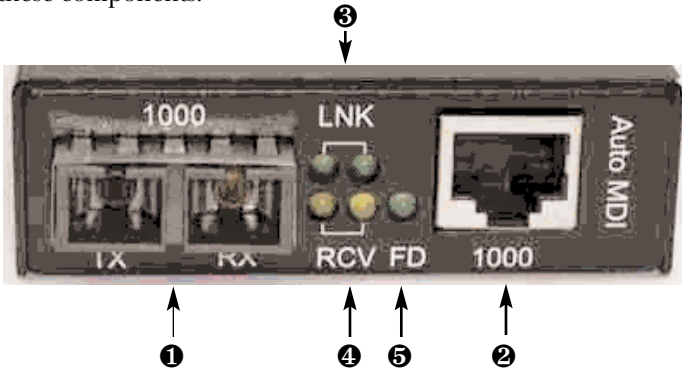

Figure 3-1. Front panel.
Figure 3-1 shows the converter's front panel connectors and LEDs. Table 3-1 describes these components.
❶ SC connectors	Connect single-mode or multimode fiber to this port. One connector is for TX; the other is for RX.
❷ RJ-45 connector	Connect twisted-pair cable to this port.
❸ LNK LEDs	These indicators light when a link on the connected port (fiberoptic [SC] or twisted-pair [RJ-45]) is detected.
❹ RCV LEDs	These indicators flash when data on the connected port (fiberoptic [SC] or twisted-pair [RJ-45]) is being received.
❺ FD LED	This indicator lights when the converter is operating in full duplex mode.
The 1000BASE-T port (❷ in Figure 3-1) is an RJ-45 connector. It supports 1000-Mbps network speeds and operates in full duplex transfer mode. This port also offers automatic MDI/MDI-X crossover detection that gives true plug-and-play capability—just plug in the network cable and the port will adjust according to the end node device. The RJ-45 connector is suitable for Category 5 unshielded twisted-pair (UTP) cable.
The 1000BASE-SX/LX port (❶ in Figure 3-1) is a pair of SX or LX connectors. It adds a fiber Gigabit Ethernet link to your network device. Compliant with IEEE 802.3z, this port transmits data at 1000 Mbps in full duplex mode across distances of up to 726 feet (221.3 m) over multimode fiberoptic cable (LG1713A-SX) or up to 33,000 feet (10 km) over single-mode fiberoptic cable (LG1713A-LX). The fiber port has NWay support and a pair of SC connectors.